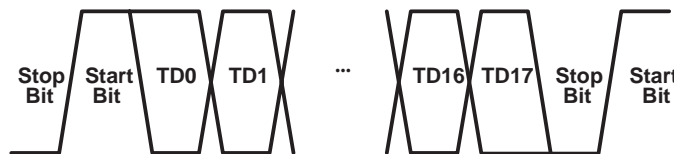

Figure 3. Serial Output Data Stream With Start and Stop Bit
All true serial interfaces require a method of encoding to insure minimum transition density so that the receiving PLL has a minimal number of transitions in which to stay locked onto the data stream. The signal coding also provides a mechanism for the receiver to identify the byte boundary for correct deserialization. The TLK1521 wraps a start bit (1) and a stop bit (0) around the 18-bit data payload as shown in Figure 3. This is transparent to the user, as the TLK1521 internally adds the framing bits to the data such that the user reads and writes actual 18-bit data.
The parallel-to-serial shift register takes in the 20-bit wide data word multiplexed from the framing logic and converts it to a serial stream. The shift register is clocked on both the rising and falling edge of the internally generated bit clock, which is 10 times the GTX_CLK input frequency. The LSB (TD0) is transmitted first as shown in Figure 3.